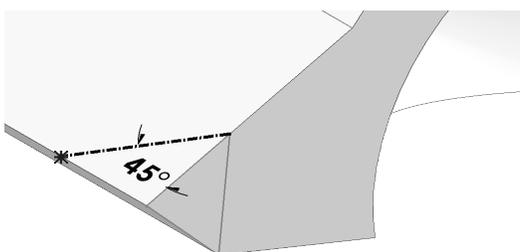

Fig. 68
Step 6. Click **Smart Dimension**  (S) on the Sketch toolbar.
Step 7. Dimension **angle 45°**, **Fig. 68**.